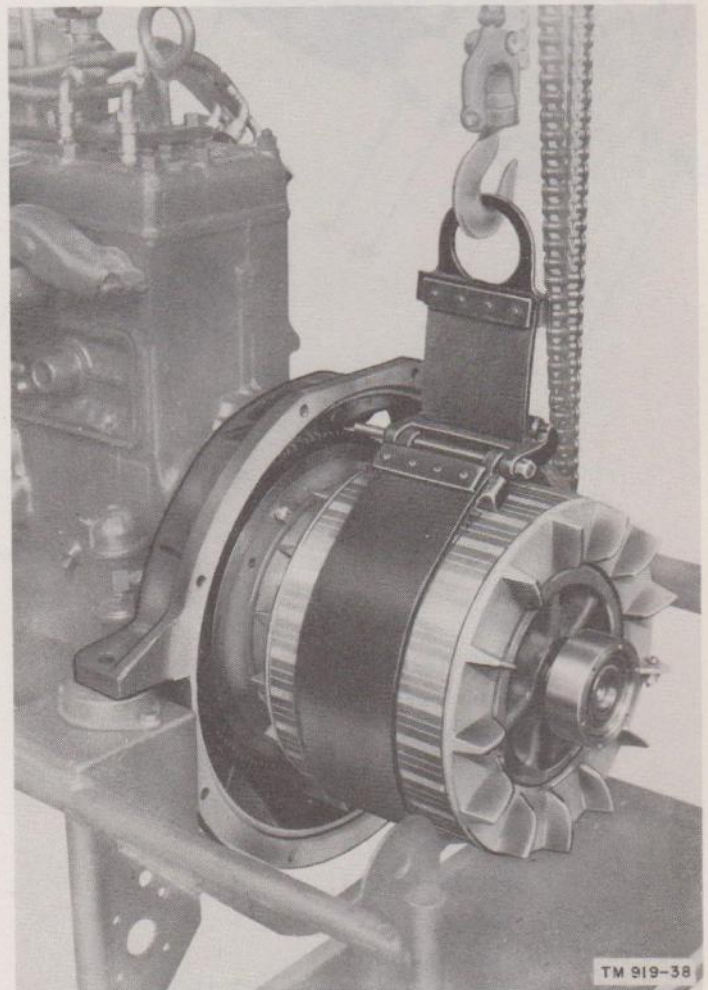

Figure 38. Removing rotor.
(1) Place a canvas belt around the rotor (24) and attach the belt to a lifting hoist as shown in figure 38. Take up on the hoist until the belt becomes taut.
(2) Cut the lockwires and remove the bolts (19) which secure the rotor to the engine flywheel.
(3) Hoist the rotor away from the flywheel.